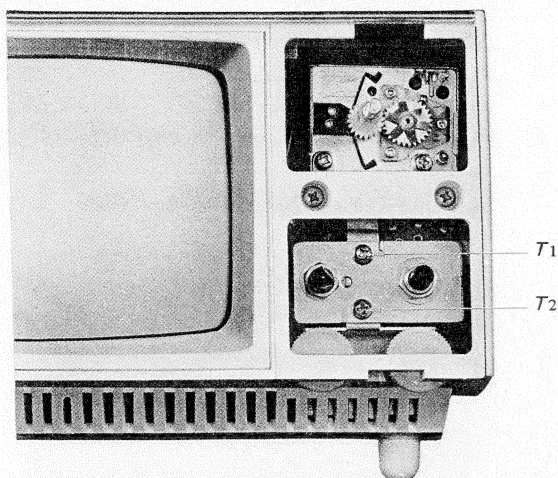

Fig. 2-21
2. Remove the two screws labeled T1 and T2 in Fig. 2-21.